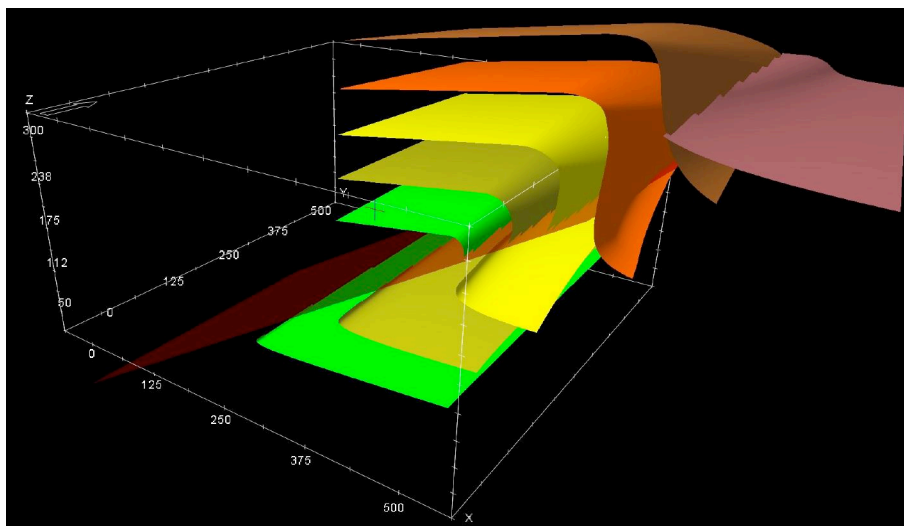

Figure 10. Model after adding one bed and running it.
**Trishear3D** can model intersections (pinchouts) of new beds against the deformed beds, but not against irregular surfaces or faults. The algorithm computes bed intersections reasonably well. However, when a new bed intersects more than one deformed bed along strike, the algorithm does not work. Figure 10 shows the model after adding the bed number 6 of Figure 9 and running the model.